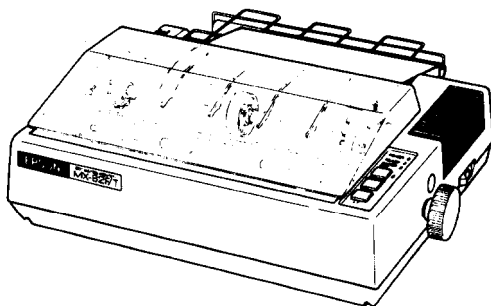

Fig. 45 Printer with Cut Paper Sheet Set Completely
8. Push the scale back into position and put the printer lid on the Printer. (See Fig. 45)